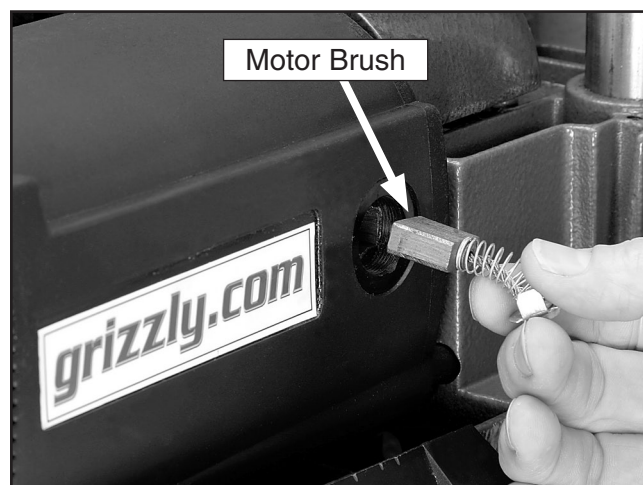

Figure 28. Motor brush replacement.
3. Remove the brushes from the motor, as shown in Figure 28.